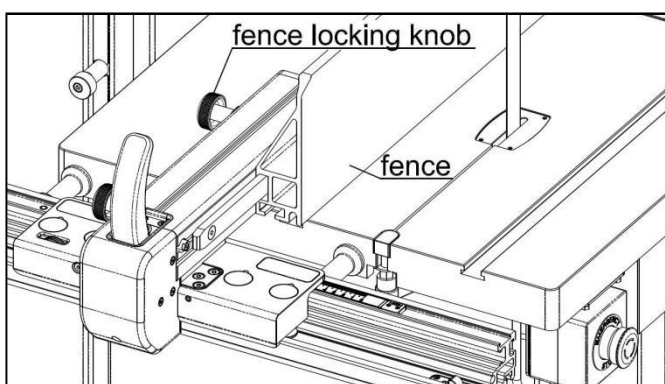

Fig. 10-8
- ② As shown in Fig. 10-8, loosen the fence locking knob, and install Fence E onto the Fence Main Assembly in the indicated direction. Then tighten the locking knob to secure the fence.